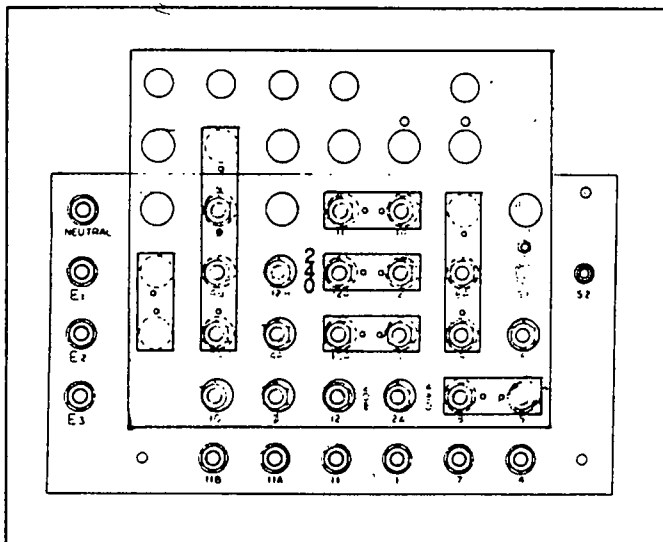

Figure 4. High Voltage Board-120/240 Volts Selected
- Figure 4 shows the high voltage board with 120/240 volts, 1 or 3-phase selected.